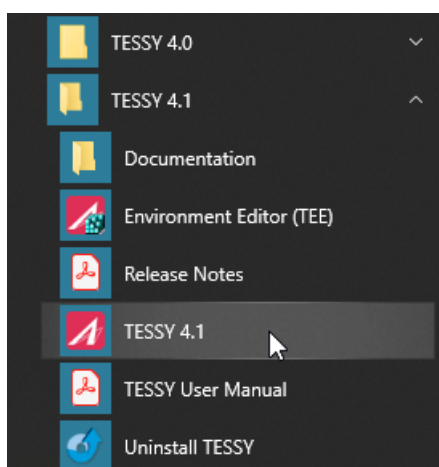

Figure 1.7: Starting TESSY 4.x
→ Start TESSY by clicking  "Start" in Windows > "TESSY 4.x" > "TESSY 4.x" (see fig. 1.7).
- Close the License Manager and start TESSY by clicking  “Start” in Windows > “TESSY 4.x” > “TESSY 4.x” (see fig. 1.7).